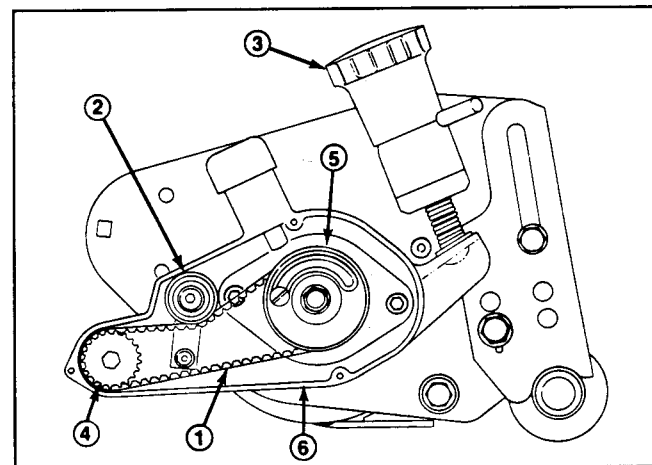
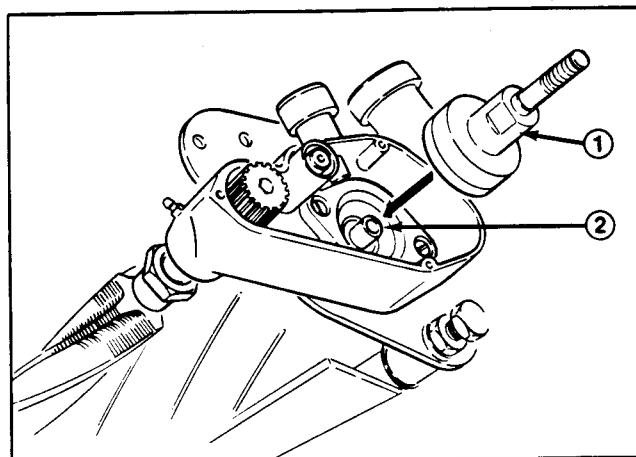

Figure 40
Figure 49
3. Remove grooming reel adjustment knob assembly from groomer housing (Fig. 40).
4. Loosen idler pulley (Fig. 40). Remove nut and washer from clutch adapter shaft. Pull clutch assembly off adapter shaft and slide belt off driven pulley. Remove clutch adapter from reel shaft (Fig. 49).
5. Remove driven pulley from groomer shaft (left-hand thread) (Fig. 40).
16. Install groomer reel driven pulley to groomer reel shaft (left-hand thread) and tighten to 29 - 35 ft-lb (Fig. 40).
17. Install clutch adapter on reel shaft and tighten to 170 - 210 in-lb (Fig. 49). Hold belt on drive pulley and slide clutch assembly on clutch adapter while sliding belt onto driven pulley (Fig. 40). Install washer and nut (removed in step 4) on clutch adapter shaft. Use a block of wood to keep reel from rotating and tighten nut to a torque of 7 - 10 ft-lb.
18. Install grooming reel adjustment knob assembly to left side groomer housing (Fig. 40).
5. Remove clutch adapter from reel shaft if necessary (Fig. 49).
3. Install clutch adapter to reel shaft (Fig. 49). Tighten clutch adapter to a torque of 170 - 210 in-lb.